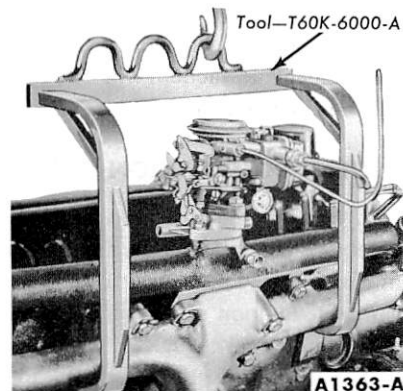

FIG. 12—Engine Lifting Hook
14. Attach the engine lifting hook (Fig. 12). Carefully lift the engine out of the engine compartment. Install